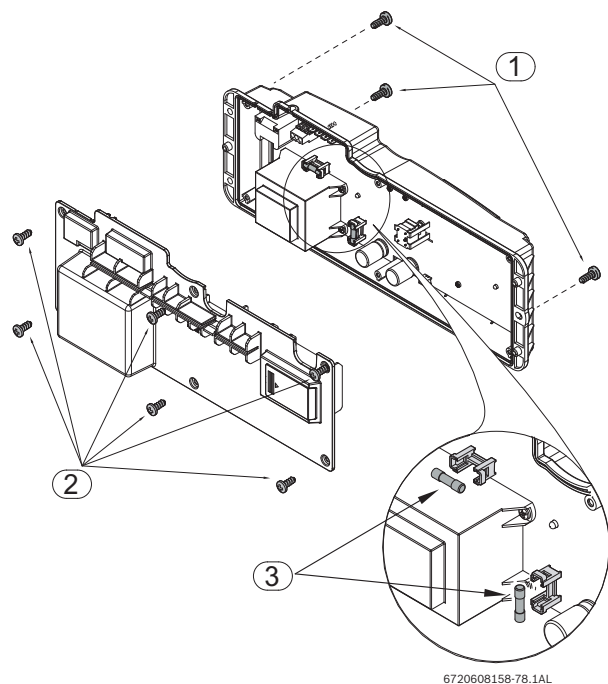

Fig. 47 Fuses position
- Remove the six screws from the back cover of the control unit, see Fig. 47, pos. 2.
- Check the fuses in the printed circuit board, see Fig. 47, pos. 3.